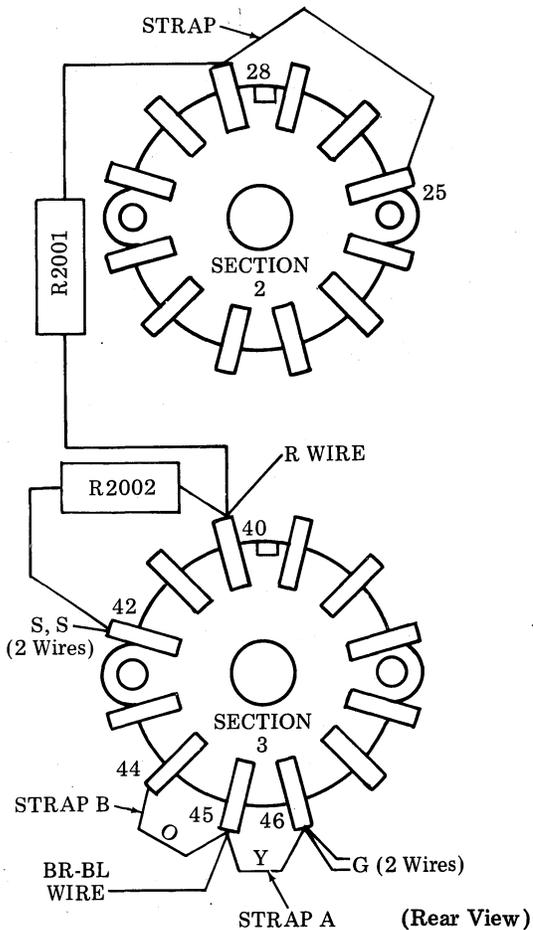

Figure 6 - S-R Switch Wiring
3.17 Follow instructions in 3.06, remove resistor R2001 (2.7K) at S-R switch (Figure 6) section 3 pin 40 to section 2 pin 28, then remove strap A at section 3 pin 46 to 45 (yellow wire).